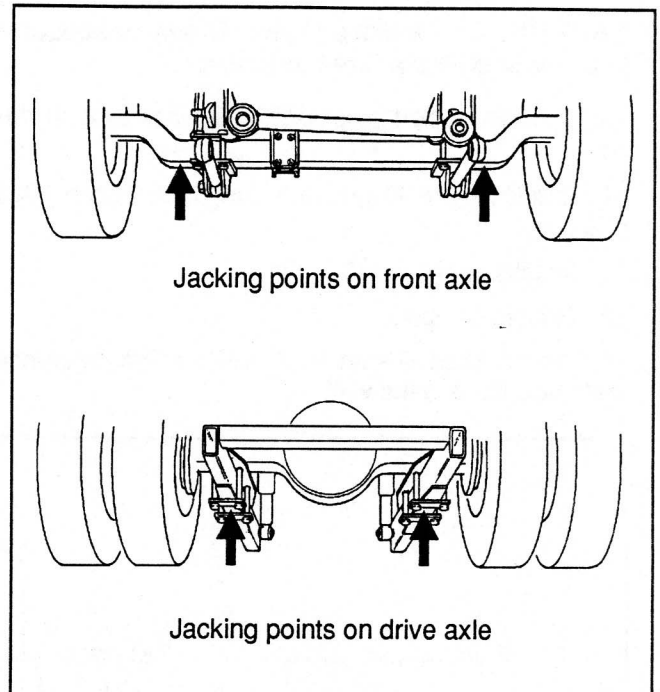

Figure 1
1. Park vehicle over a safe lifting equipment which minimum capacity must be 50,000 lbs (23 000 kg). Stop engine and shift transmission in neutral position. Apply parking brake, exhaust air from the suspension air springs and set battery main disconnect switch to the "OFF" position. Refer to figure 1.